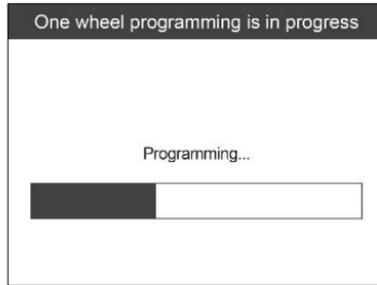
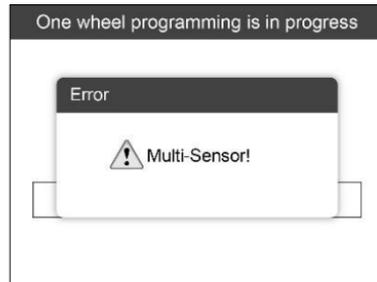

Figure 5.17
Figure 5.18
- 4) Press the Y button to write in the new created sensor ID to the MX-Sensor and the screen will show as below (Figure 5.17). If an error prompts, please keep the MX-Sensor to be programmed away from other MX-Sensor (Figure 5.18).